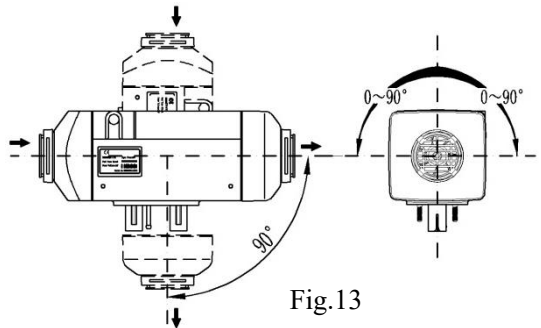

Fig.13
4.2.5 Direction for installation of the heater is shown in Fig. 13. Attention must be paid to that the inclination angle shall not exceed the limit, or normal operation will be affected.